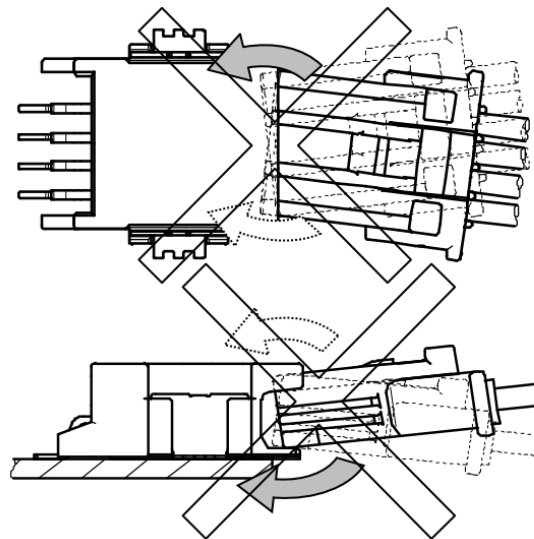

Fig.8: Mating Method of Pin Block and F Housing
- Arrange the directions of the lock parts of the M Housing and F housing and mate them straightly (horizontally). If the housing is twisted and mated obliquely, a contact defect may be caused due to deformation or damage of the terminal and housing. (Fig. 8)